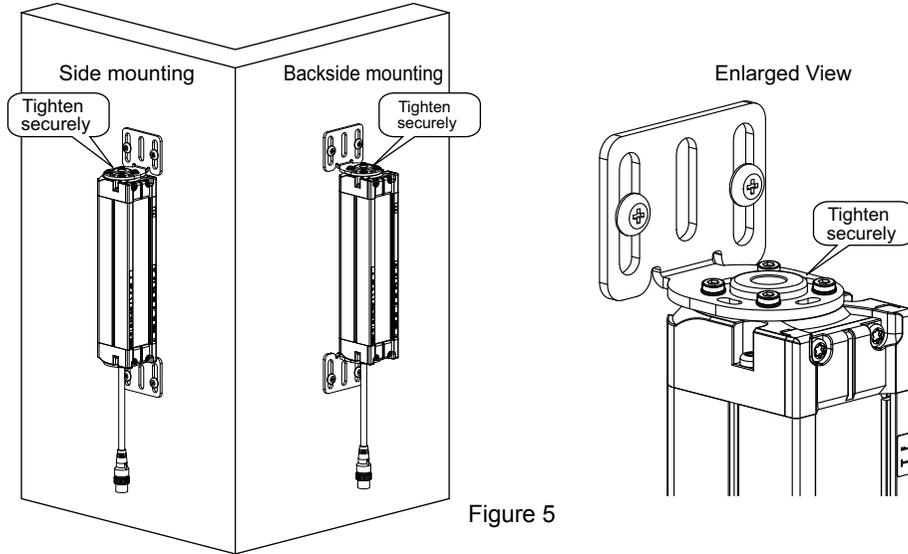

Figure 5
4. Tighten the lightly fastened hexagon socket head cap screws (M3 x 8) of the top/bottom mounting brackets. (Figure 5) Tighten the hexagon socket head cap screws (M3 x 8) with the specified torque at 0.54 N·m.